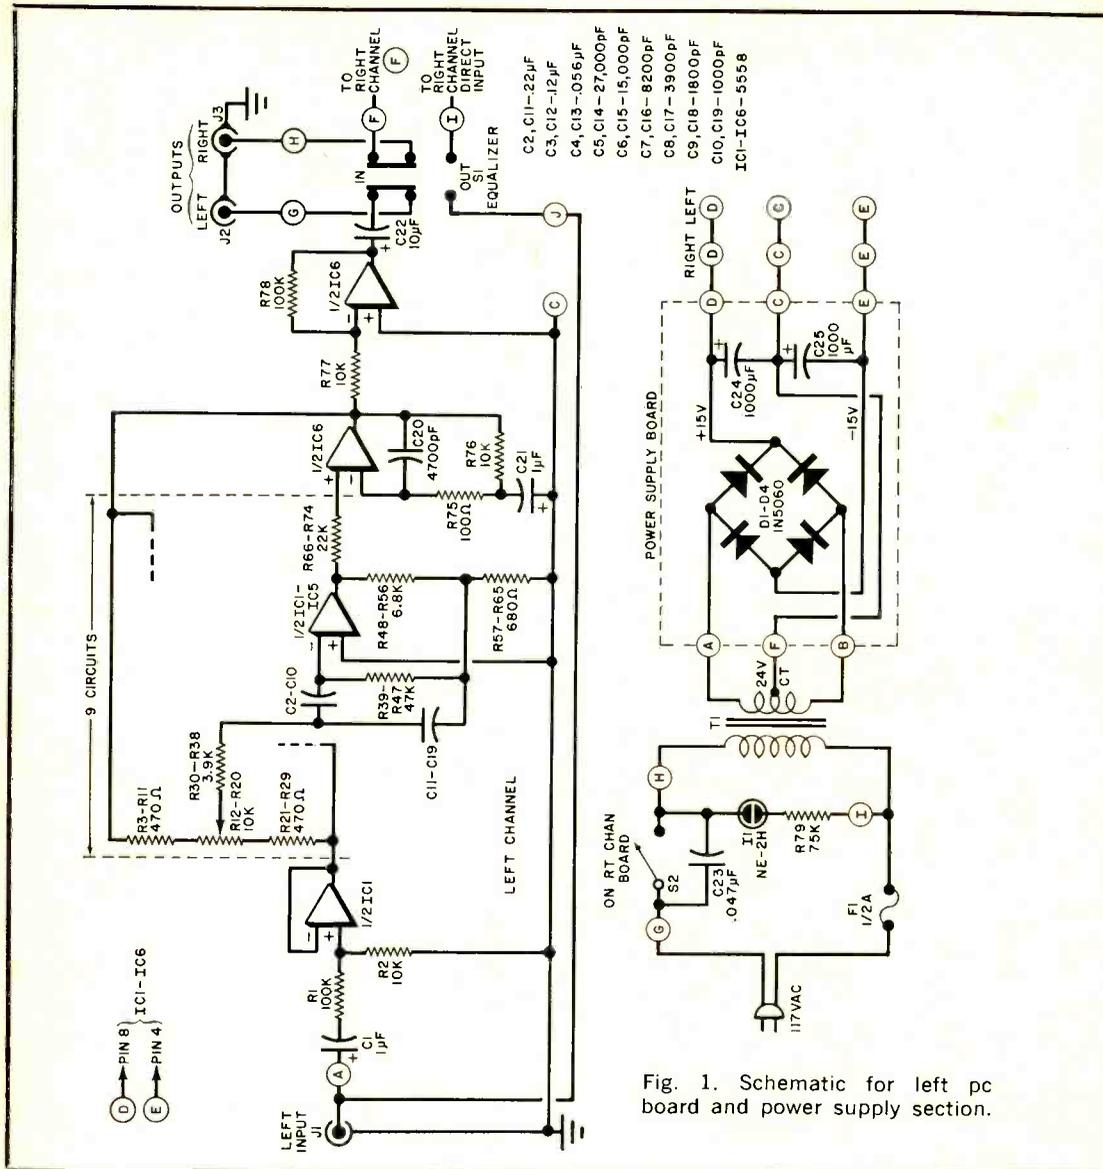

Fig. 1. Schematic for left pc board and power supply section.
**How It Works.** The schematics for one channel and the power supply are shown in Fig. 1. The input to the channel is coupled through capacitor *C1* to voltage divider *R1-R2*. One of the two op amps in *IC1* buffers the input from the voltage divider and provides a low-impedance source for the nine active filters. Each of the latter is composed of an operational amplifier (½ of *IC1* and both halves of *IC2-IC5*) with the related resistors and capacitors. The outputs of the